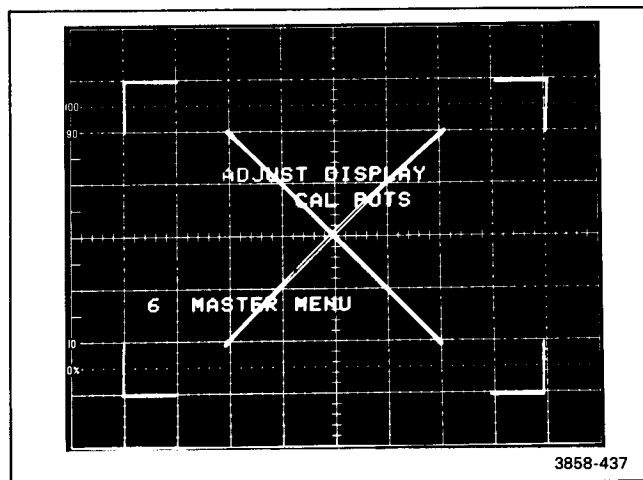

Figure 4-9. Display Adjust Pattern.
- f. While observing the DISPLAY CAL PATTERN displayed on the oscilloscope mainframe crt, set VERT GAIN, VERT CTR, HORIZ GAIN and HORIZ CTR adjustments to place corner markers of displayed adjustment pattern on center 6 × 8 divisions of graticule, as shown in Figure 4-9.
- g. Set front-panel VECT LIN adjustment for minimum trace separation of diagonal lines on DISPLAY CAL PATTERN as shown in Figure 4-9.